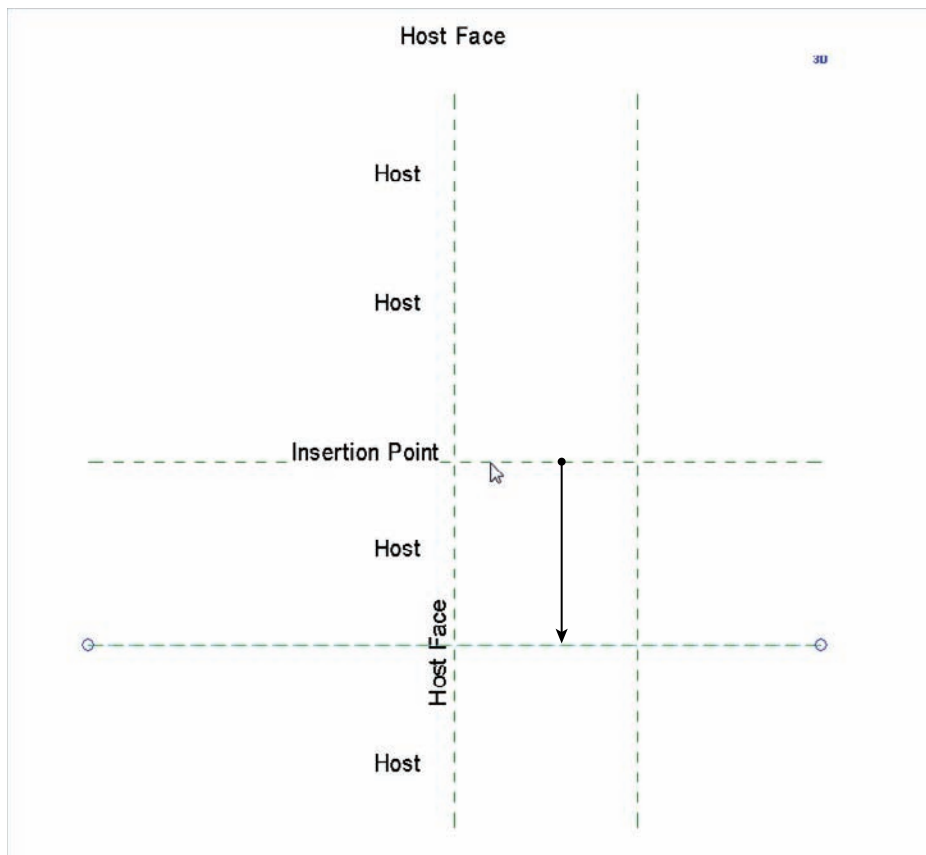

FIGURE 17.3 Adding a second horizontal reference plane downward
5. With the Reference Plane command still running, pick the horizontal reference plane, and offset it down using the same offset increment of 1'-0" (300mm). Your family should resemble Figure 17.3.